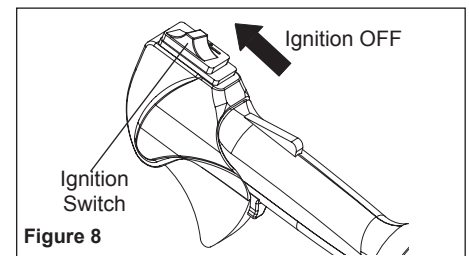

Figure 8
2. Move the ignition switch to the “O” or STOP position. See Figure 8.